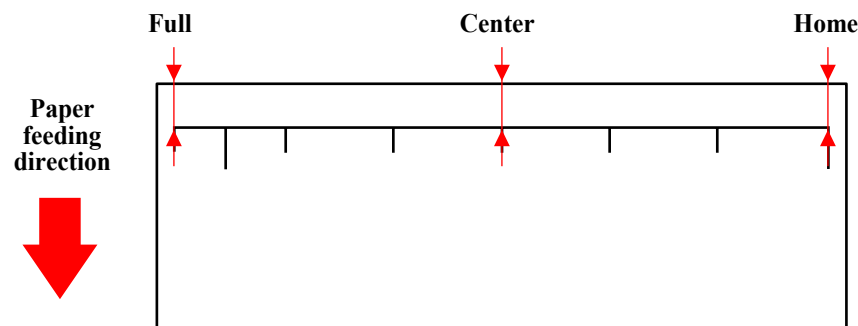

Figure 5-83. Adjustment Pattern
4. Measure the distances of Home, Center and Full as shown in Figure 5-83.